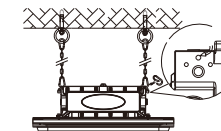
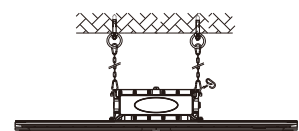

Figure 15
Figure 16
2. Hang the fixture into the lifting hook or chain.(Figure 15) (Figure 16)